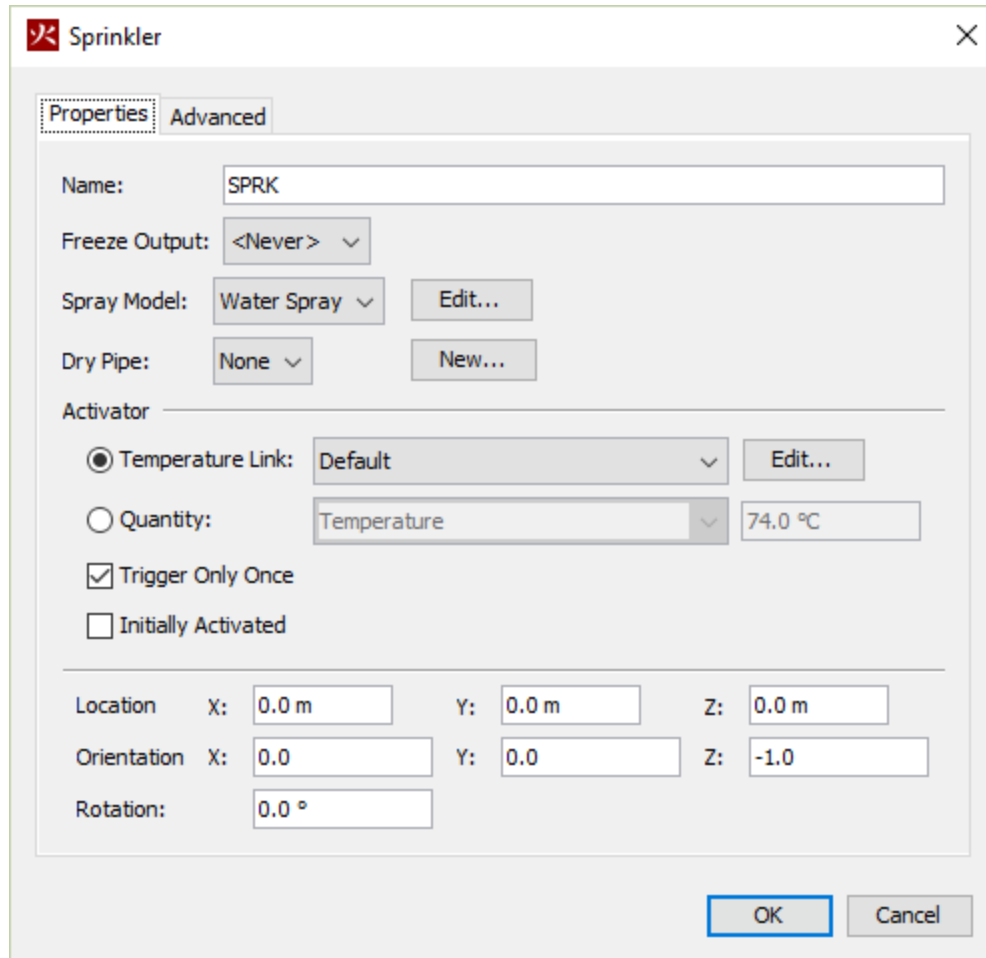

Figure 116. Creating a new sprinkler
1. On the **Devices** menu, click **New Sprinkler**. This will display the **Sprinkler** dialog, Figure 116.